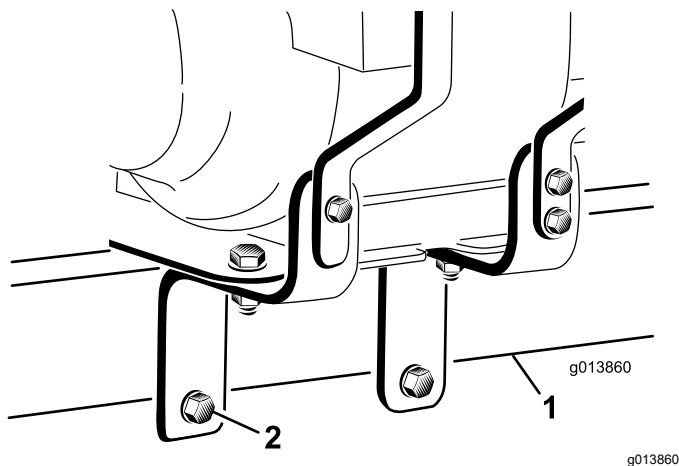

Figure 7
8. Insert the 2 bolts (1/2 x 5 inches) through the engine mount bracket holes, ensuring that a flat washer is fitted against each outer face of the engine mount bracket, and ensuring that the bolts pass beneath the bottom of the hitch tube. Hand tighten the 2 nuts (1/2 inch) as shown in Figure 7.